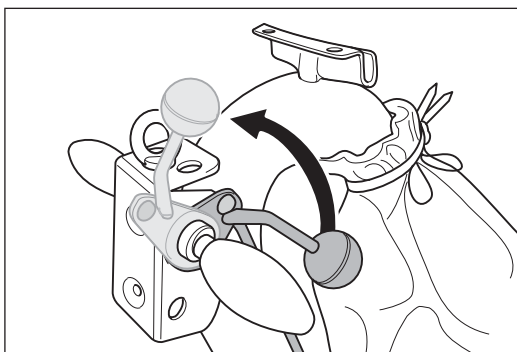

Fig. 30 Lift the sanding drum off the floor by turning the lowering lever at the handle upwards.
- 1 Before switch off the machine lift the sanding drum off the floor by turning the lowering lever at the handle upwards (fig. 30).